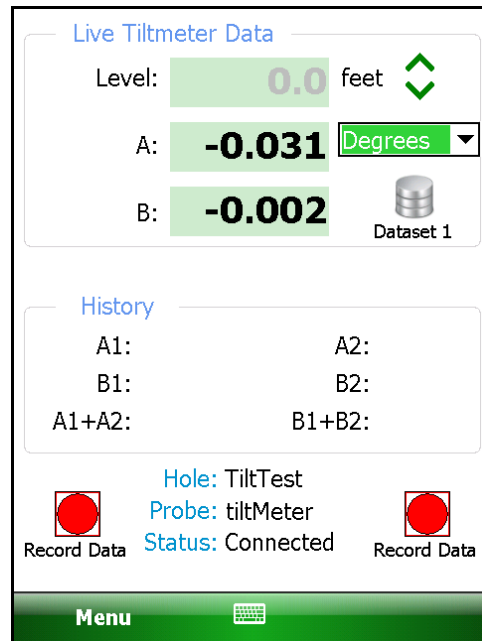

Figure 6 - Live Readings (Tiltmeter)
Figure 6 - Live Readings (Tiltmeter)	7
4. Tap the "Live Readings" menu item from the "Application" menu to start the reading process. If a valid Bluetooth connection can be established, a dual axis, tiltmeter specific, Live Readings screen will be displayed (see Figure 6).
Note the drop-down control in Figure 6, located just to the right of the "A" value display. This allows the "A" and "B" values to be displayed in 3 different units, described below: